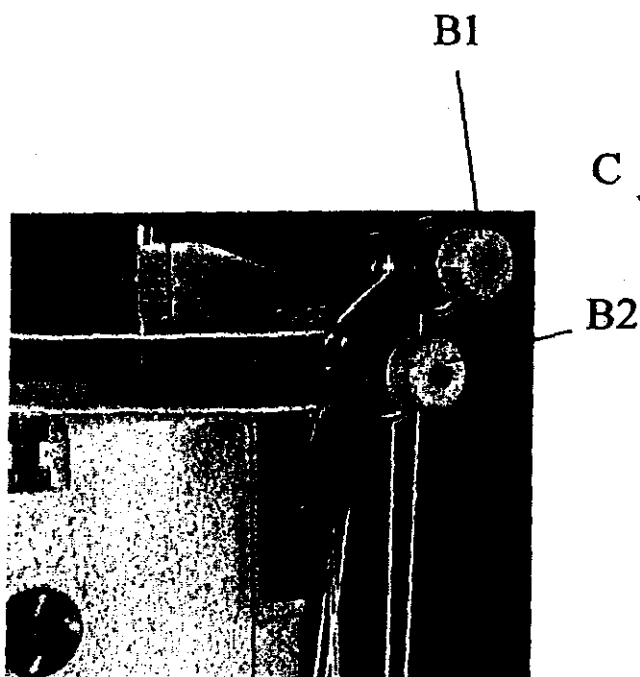

Fig.1
- Needle thread tension of main tensioner B1 、 B2 to regulating main needle thread tension • (Fig.1)